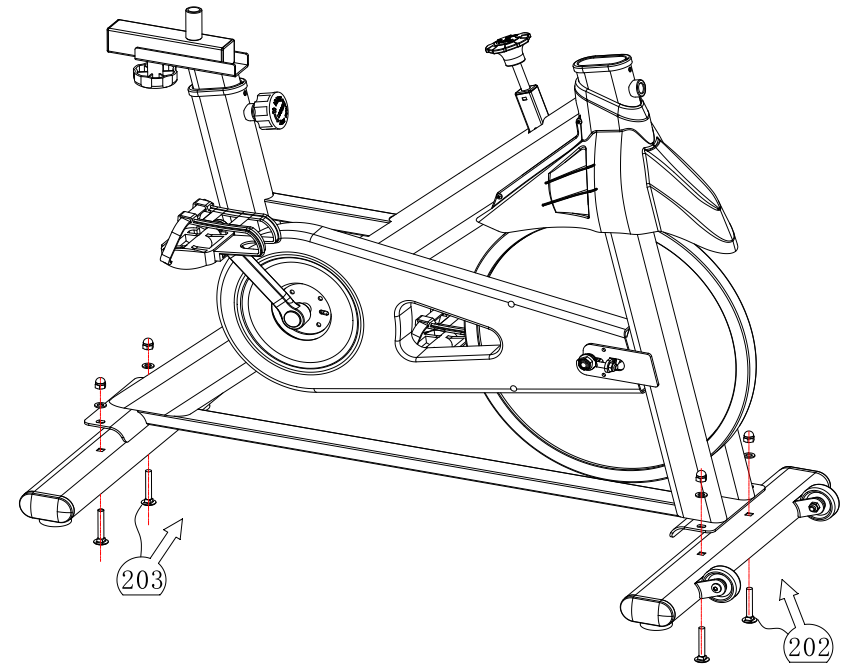

Figure 2
2. As shown in step 202 in Figure 2, insert two "Large Half-Round Head Square Neck Bolt M10×90" into the square hole of the "Front foot tube sets" to pass the arc of the front end of the main body while the carrying wheel is facing forward. The round hole of the shape piece is respectively inserted into the "flat washer  $\Phi 11 \times \Phi 20 \times 2$ " and then screwed into the "cap nut M10", and the nut is tightened with a 16# wrench;
As shown in step 203 of Figure 2, two "Large Half-Round Head Square Neck Bolt M10 x 90" are respectively inserted into the square holes of the "rear foot tube assembly", and the adjustable foot pad is perpendicular to the bottom surface and then passes through the host. The round hole of the curved piece at the front end is respectively inserted into the "flat washer  $\Phi 11 \times \Phi 20 \times 2$ " and then screwed into the "cap nut M10", and the nut is tightened with a 16# wrench;